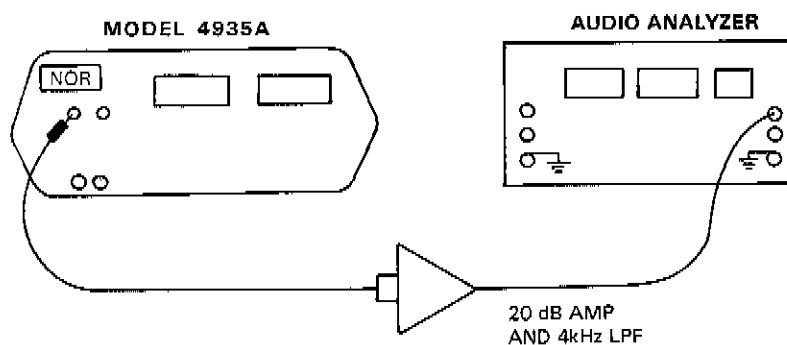
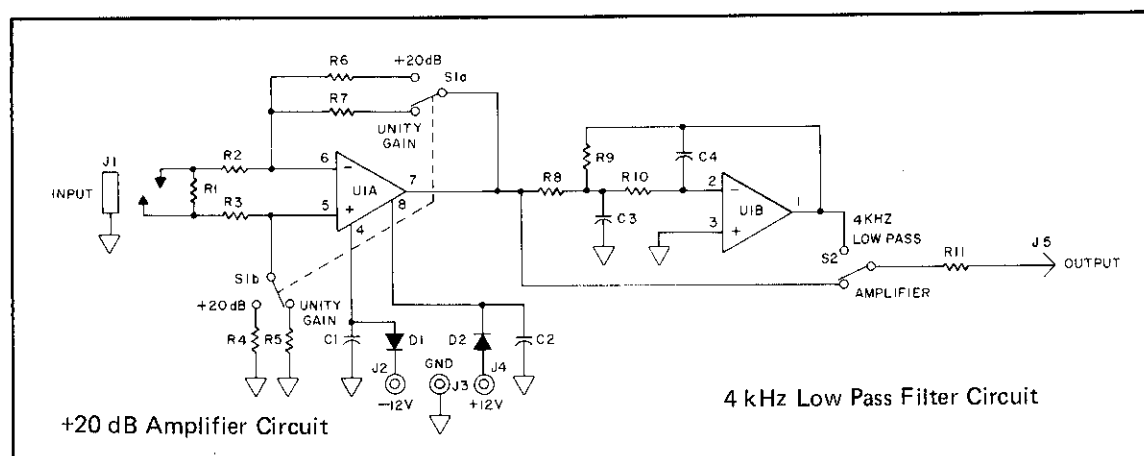

Figure 4-12. -40 dBm Distortion Test
Figure 4-13. Filter Circuits*
*see figure 4-13 for circuits
8. Connect an amplifier with +20 dB gain in the signal path as shown in Figure 4-12. The Power Supply should supply ± 12 V to the +20 dB Amplifier and 4 kHz Low Pass Filter Board. See Figure 4-13 for the circuit and Table 4-14 for the Parts List.